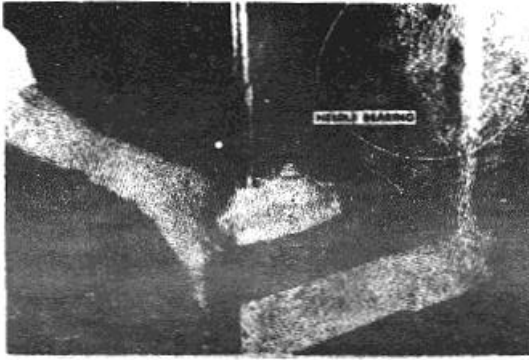

Figure 4-35. Pressing out governor assembly.
10. Press governor assembly from the front cover. Fig. 4-35.